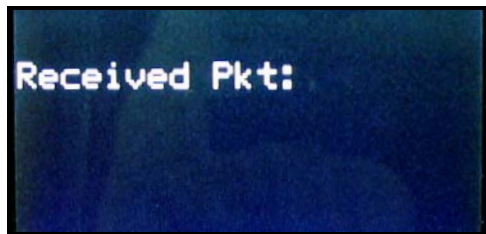

Figure 48: Sentinel LCT4 Screen
3. From the **Sentinel LCT4** FACTORY menu, scroll to the Upgrade option and press [ENT] twice. Confirm = YES. The **Sentinel LCT4** screen should appear as in Figure 48 after approximately one minute,
Power on the **Sentinel LCT4**, and enter ESC-R from the PC keyboard. The **Sentinel LCT4** screen should appear as in Figure 48.